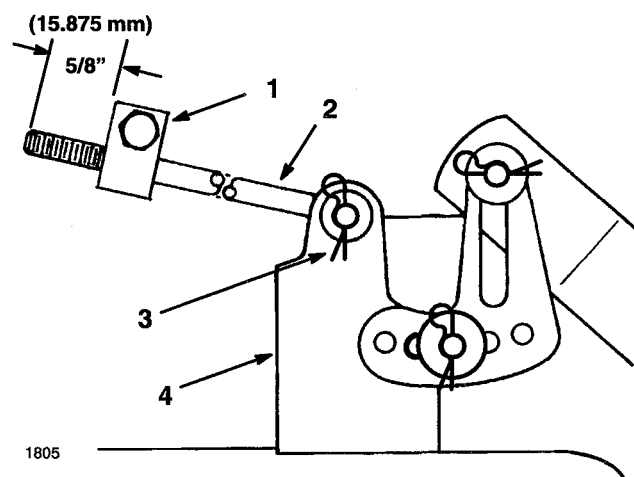

Figure 12
3. Measure the length of the rod extending out the front of the adjusting block on the sides of the chassis (Fig. 12). If the rod length is not $5/8"$ (15.875 mm), remove the hair pin cotter and washer from the end of the rod (Fig. 12), and turn the rod until the $5/8"$ (15.875 mm) dimension is obtained. Then install the end of the rod into the hole in the mower mount and secure in place with washer and hair pin cotter. Repeat this procedure on the opposite side of the mower.